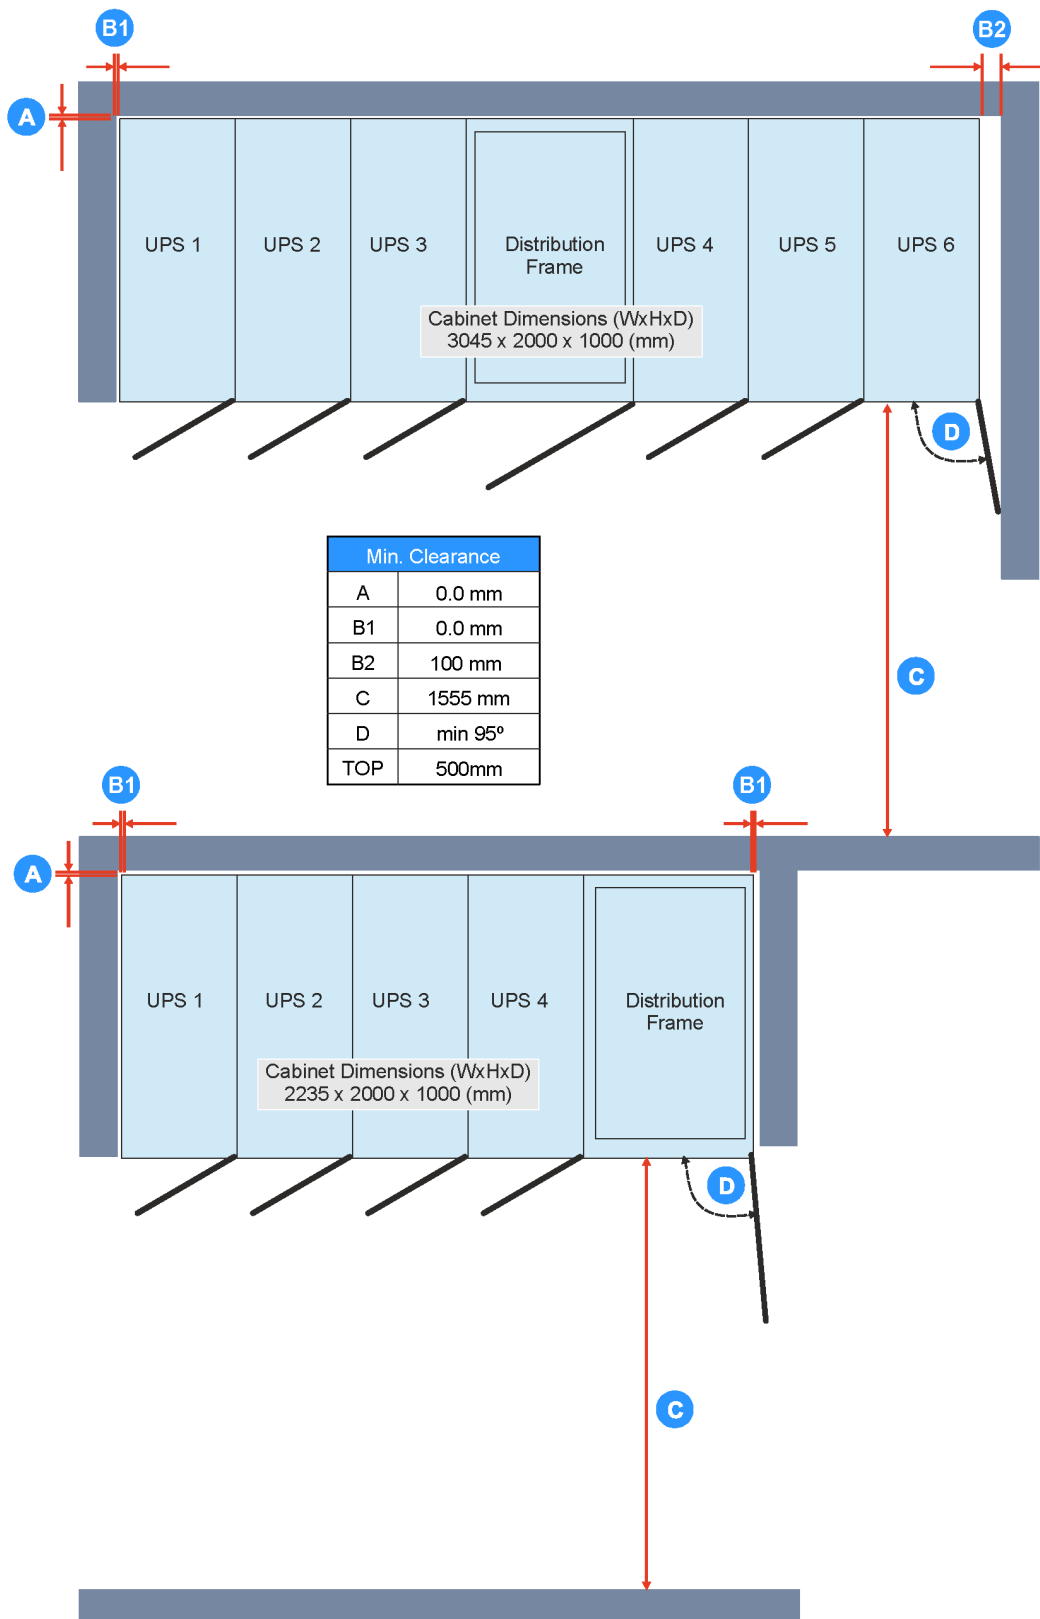

Figure 4.1 Clearances for a PW MF1500 DPA stand-alone cabinet
Figure 4.1 illustrates the required PW MF1500 DPA UPS cabinet installation clearances. This drawing shows that no back (A) or side (B1) clearance is required; however the cabinet doors must be opened to at least 95° in order to access/remove some components, so if the wall at the right of the UPS cabinet protrudes beyond the cabinet front then a minimum clearance of 100 mm (B2) must be provided to allow the door to be fully opened. A front clearance of 1555 mm (C) is required to enable the inverter modules to be removed or replaced by an individual service engineer. Ideally, the space provided in front of the cabinet should be increased beyond the specified 1555 mm where possible to enable unrestricted passage in front of the cabinet when the cabinet doors are open.